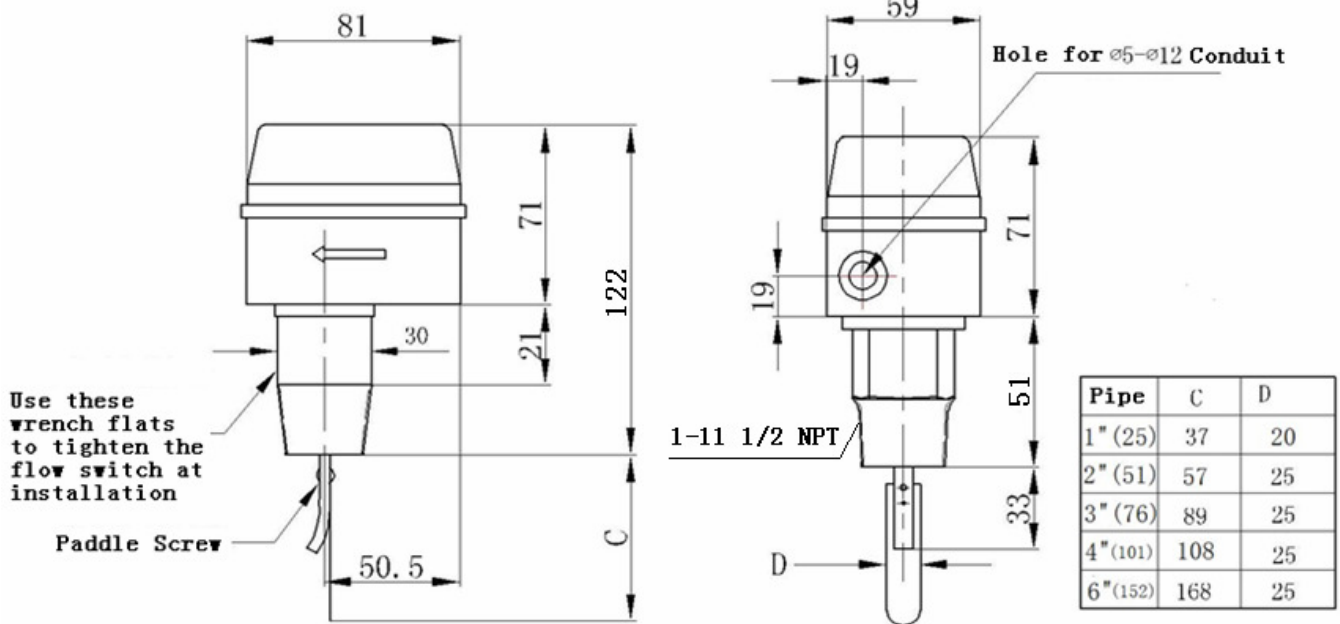

Figure 4 Dimensions (mm)
**To avoid damaging the switch, do not tighten the switch to the tee by grasping the switch enclosure. Use only the wrench flats provided (see Figure 4).**